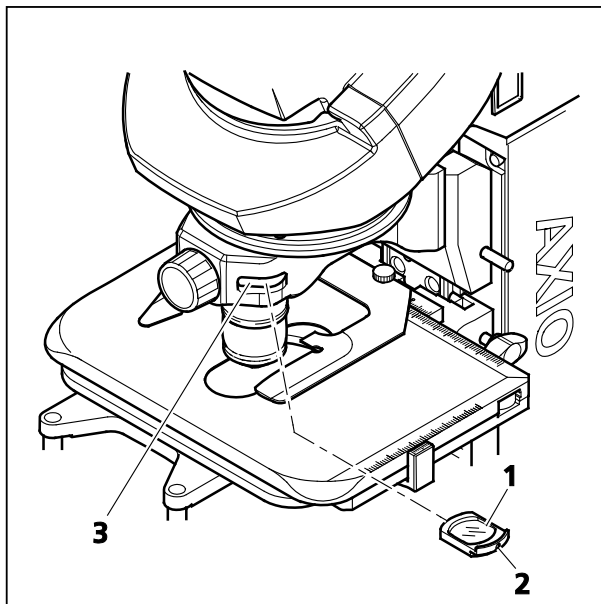

Figure 4-4 Inserting a DIC slider into an objective mount or objective nosepiece
- Insert DIC slider SÉNARMONT 75 W PA (426967-9000-000 or 426967-9070-000) (Figure 4-4/1) into the opening (Figure 4-4/3) provided for it in the objective mount or turret. Ensure correct orientation as indicated by the DIC slider lettering.
- Put the ball head screwdriver into the recess (Figure 4-4/2) in the DIC slider, and push the DIC slider (Figure 4-4/1) into the slot until it locks into place.
(4) Centering the DIC slider